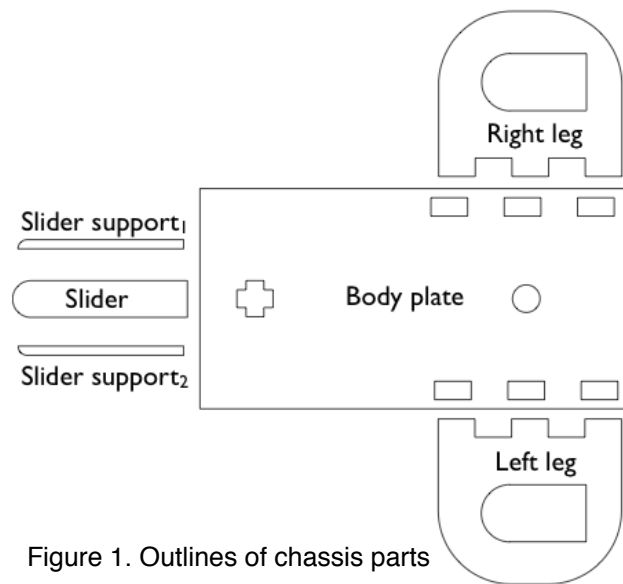

Figure 1. Outlines of chassis parts
1. **Make a plan.** On Figure 1, clearly mark (trace) the surfaces where you plan to place epoxy.
2. You will be assembling the chassis upside-down (i.e. with the body laying flat and with the right and left legs extending up from the table toward you). Prepare your parts; align the components next to each other (refer to Figure 1) on the ceramic tile.